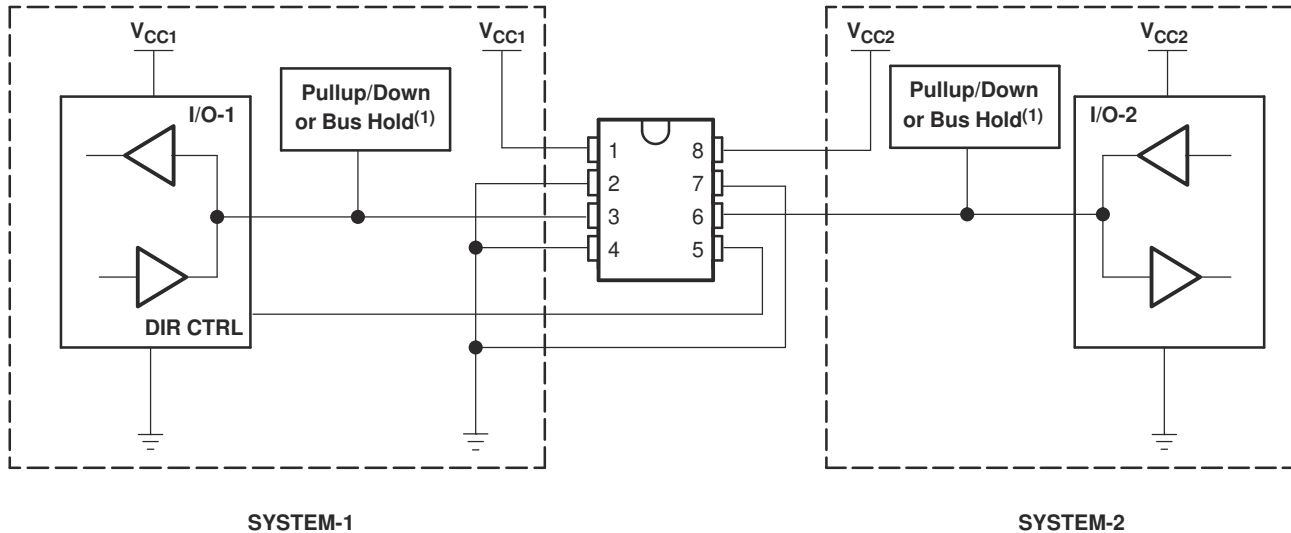

Figure 8-2. Bidirectional Logic Level-Shifting Application
Figure 8-2 shows the SN74LVC2T45-Q1 being used in a bidirectional logic level-shifting application. Because the SN74LVC2T45-Q1 does not have an output-enable (OE) pin, the system designer should take precautions to avoid bus contention between SYSTEM-1 and SYSTEM-2 when changing directions.